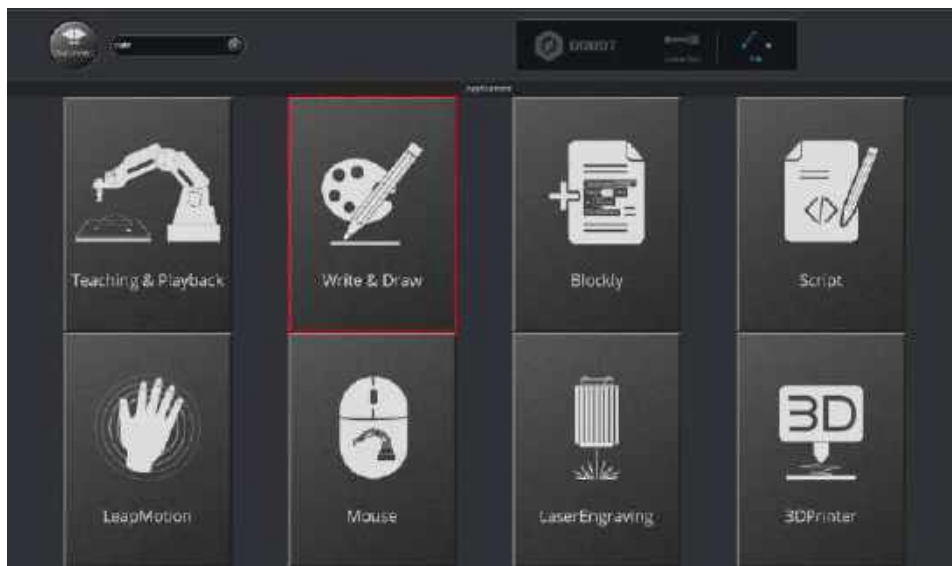

Figure 5.58 Click Write & Draw
Step 1 Click **Write & Draw** on the **DobotStudio** page, as shown in Figure 5.58.